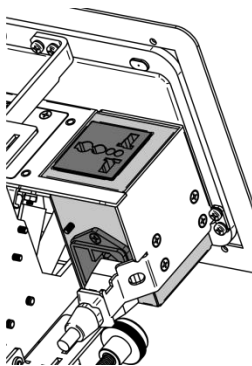

Figure 7: Power socket installed
3. Screw the four screws included in the power socket kit into the designated holes to fix the power socket housing in place (see Figure 7).